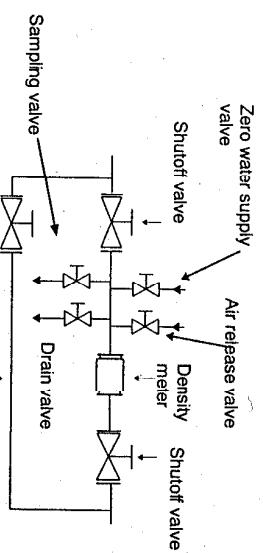
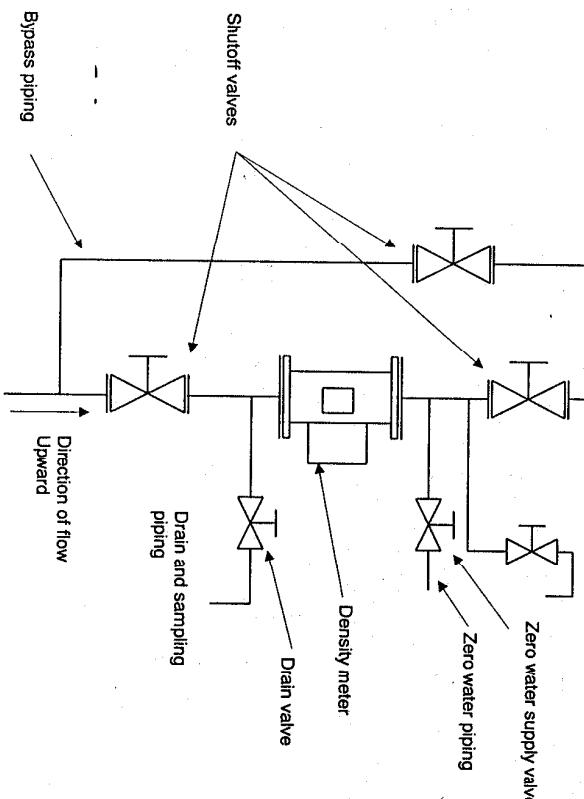

Fig.3.2A. Meter mounted horizontally (Looking from above)
Fig.3.2B. Meter mounted vertically
Piping layout and detector mounting is shown in Fig. 3.2A and Fig. 3.2B. Refer to the layout examples as you read following layout guide.
(2) Detector has no fixed flow direction, or no upstream or downstream side. Straight tubes are not required in the upstream side and the downstream side. Choose direction or side to easier maintenance.
(3) When you anticipate opening or gap in connecting to a mating pipe, prepare a loose mechanism joint in advance.
(4) Install the detector into such a section where fluid fills the detector tube completely, and bubbles will not stay. When fluid does not fill the tube, it causes measuring errors or indicator fluctuations. When a pump is used in the pipeline and it runs intermittently causing a possible unfilled detector tube, use the External Synchronized operation to activate detector to measure only when the pump is in operation.
(5) Protect detector from getting the vibration from the pump through piping.
(6) Avoid such a section for installation where solid may build up on the bottom of tube.
(7) Avoid such a section where bubbles may get into pipes. To avoid bubbles getting into pipes, we recommend installing a detector on the outlet port of a pump rather than the intake side.
(8) In making zero point adjustment, you need to drain fluid out of a detector and fill it with clean water or zero density water. To enable zero adjustment, arrange followings (Refer to Fig.3.2A, Fig.3.2B, and notes below). Install a shut-off valve on each of the upstream and downstream side of the detector. Between the detector and one of the valves, provide four ports each with a shut-off valve to be used for sampling, feeding zero water, releasing air, and draining. In addition, if you want to keep the flow running even at the time of zero adjustment, provide a bypass pipe with a shut-off valve as in Fig.3.2A and Fig.3.2B.